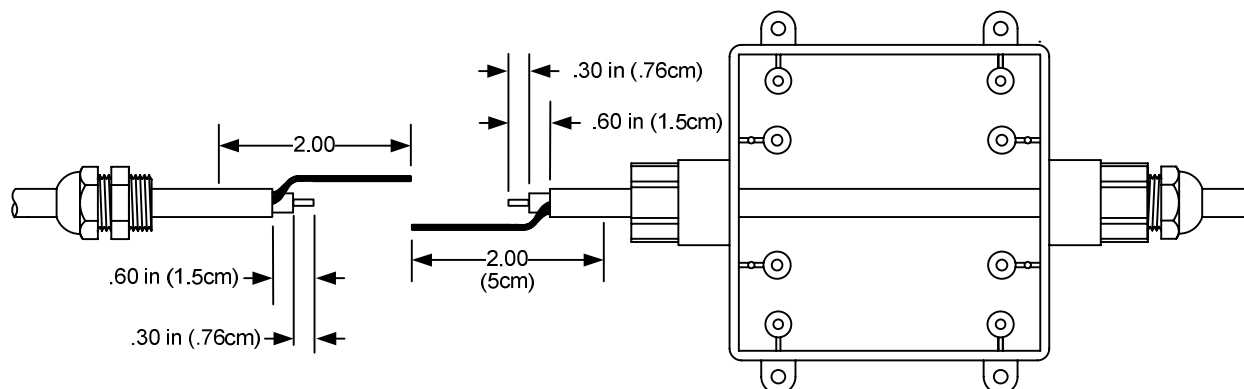

Figure 6.27 – Cable Stripping Dimensions
- **Step 3:** Strip the cables to the dimensions as shown in Figure 6.27. Clean the braid thoroughly using Goo Gone, WD40, Xylene, Kerosene, or Mineral Spirits to remove the flooding compound.